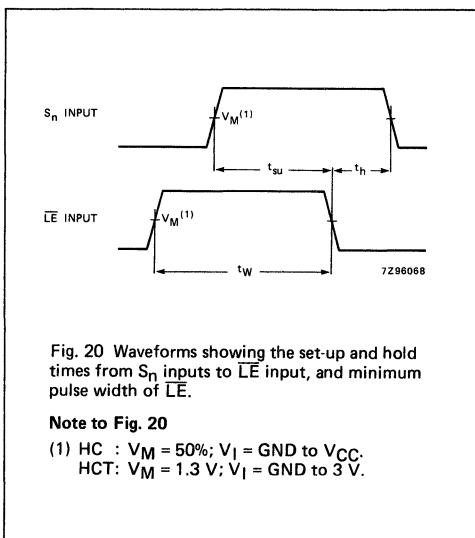

Fig. 20 Waveforms showing the set-up and hold times from  $S_n$  inputs to  $\bar{L}E$  input, and minimum pulse width of  $\bar{L}E$ .
**Note to Fig. 20**
(1) HC :  $V_M = 50\%$ ;  $V_I = \text{GND to } V_{CC}$ .